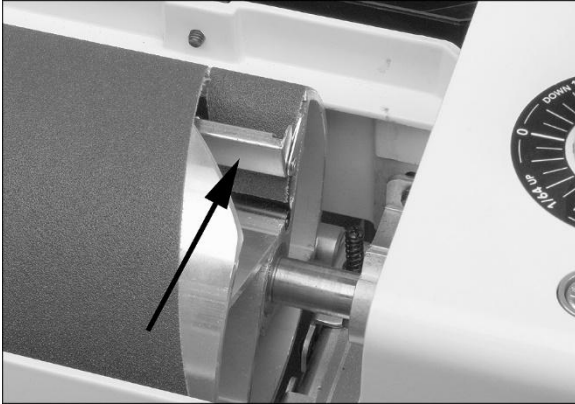

Figure 6-6
6. Press inboard take-up lever (Figure 6-6) and insert trailing end of strip as far as it will go. If necessary, trim tapered end of abrasive strip.